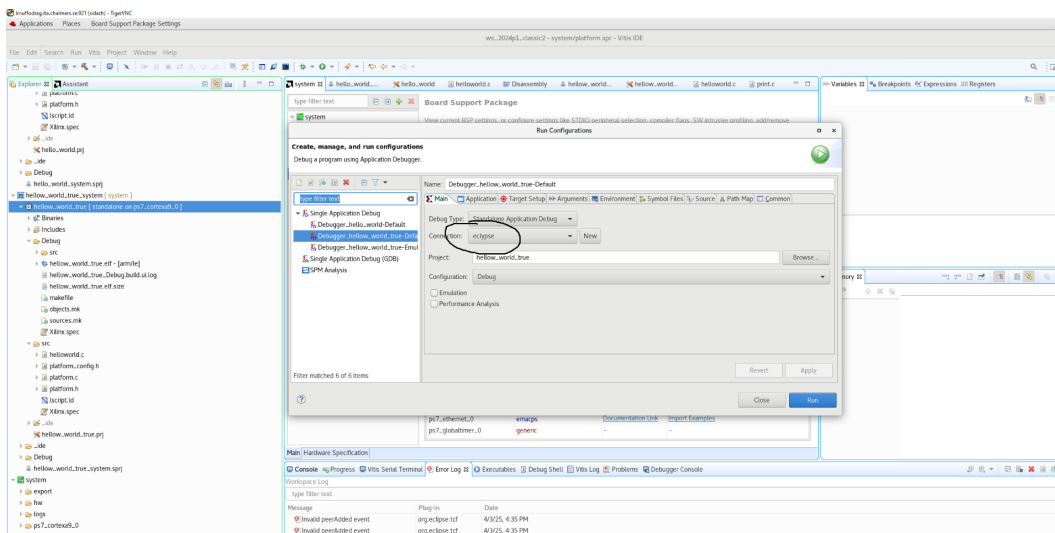

Figure 8: Run configuration selection in Vitis
5. Make sure to select the correct connection for the application project run configuration (see Figure 8) and click run. We use Vitis Classic, but we assume it should be similar to the Vitis Unified IDE.